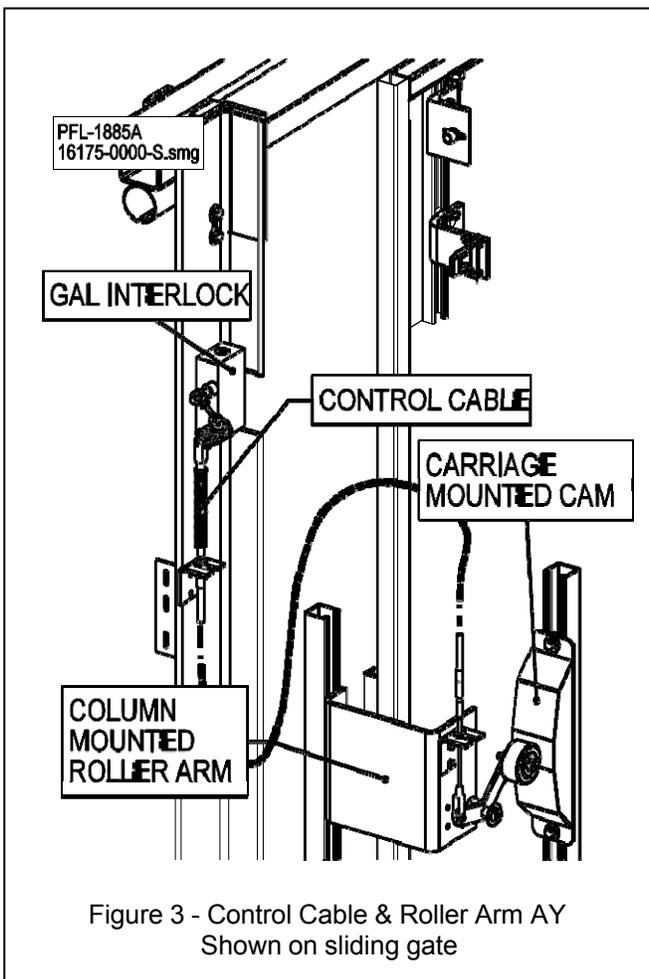

Figure 3 - Control Cable & Roller Arm AY
3. With the carriage at the upper level install upper top floor level limit switch assembly as shown in **Figure 3.** Verify that it clears all lift bracing and/or carriage lift drop cords. Keep the bracket clear of the carriage upper wheelblock shoe.
On units with **intermediate floors**, it may be necessary to change switch actuation direction. Refer to the limit switch manufacturer's instructions. For example see **Figure 3** (Eaton E50 limit switch shown).